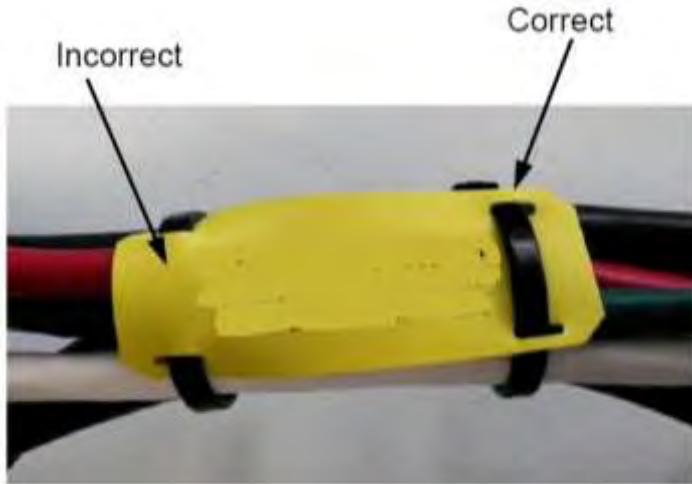

Figure 2
(5) Install cable ties through holes in label as shown in Figure 2. Note correct positioning of cable ties in photo below.